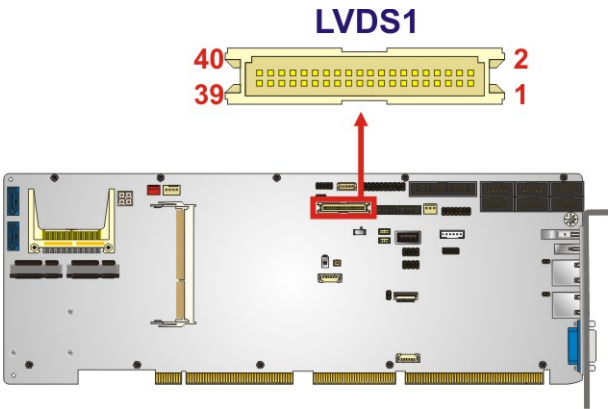

Figure 3-18: LVDS Connector Location
- CN Location: See Figure 3-18